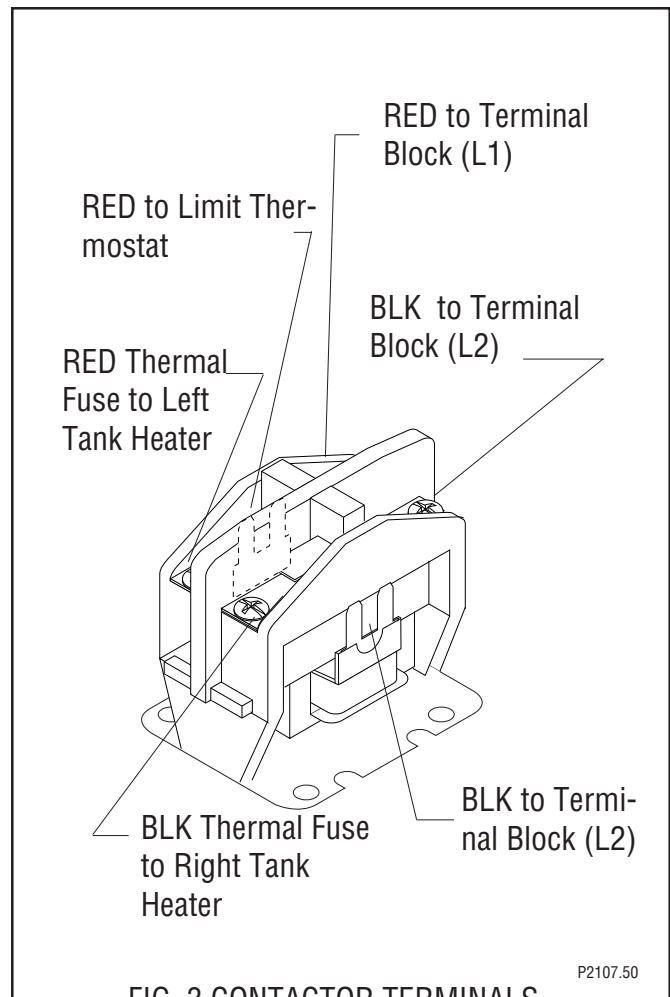

FIG. 3 CONTACTOR TERMINALS
4. Refer to Fig. 3 and reconnect the wires.